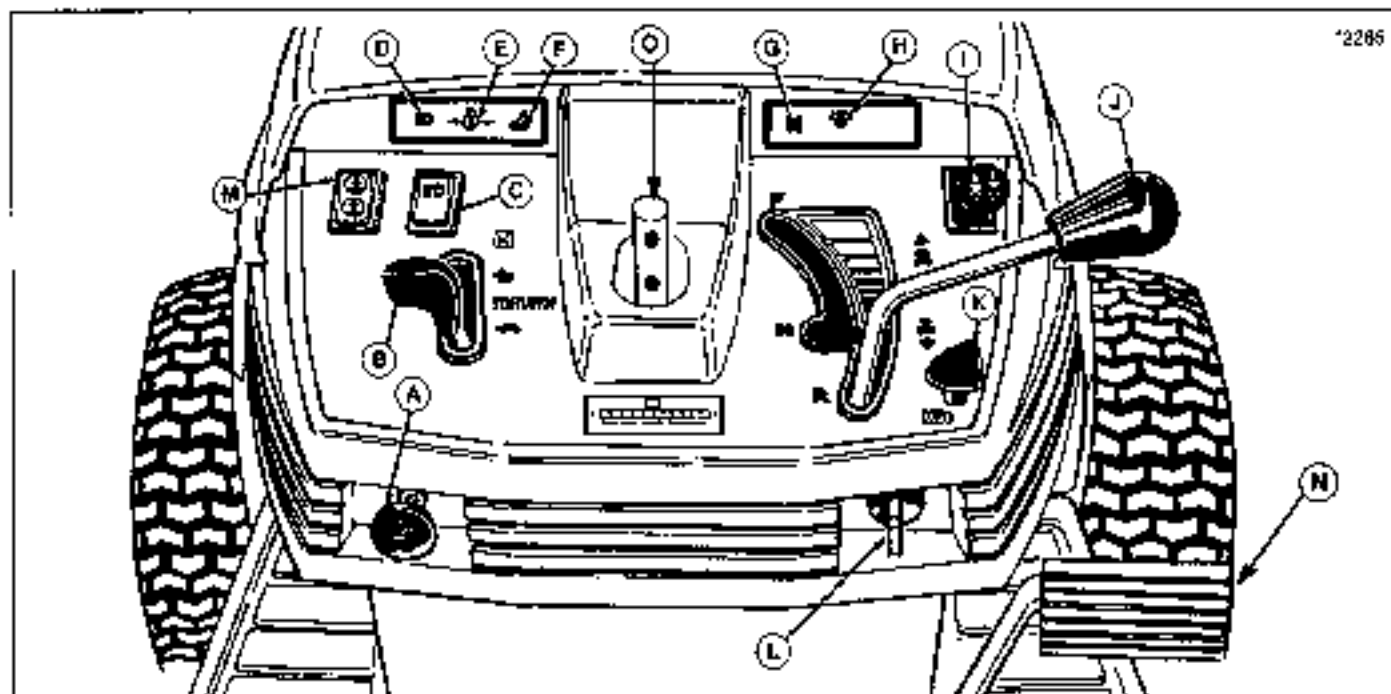
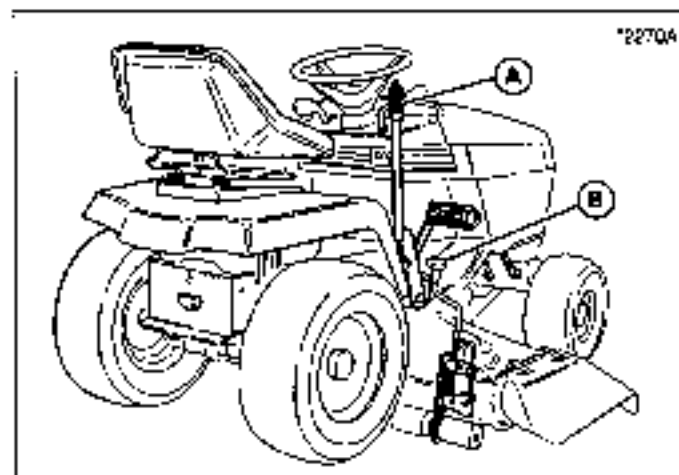
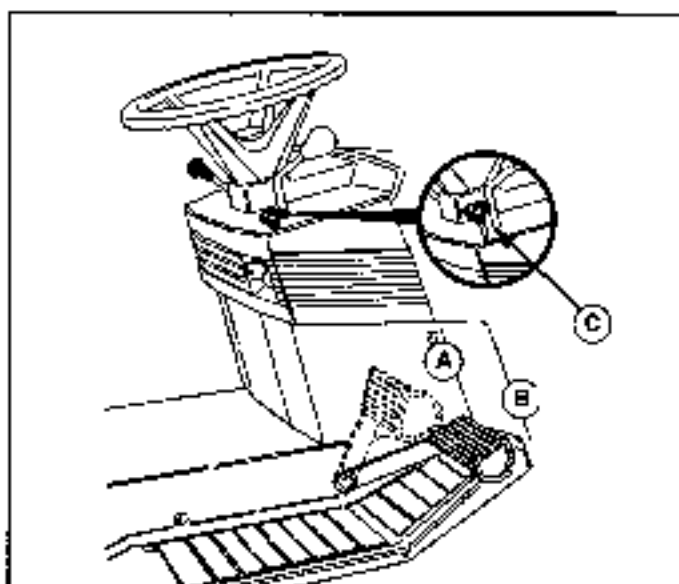
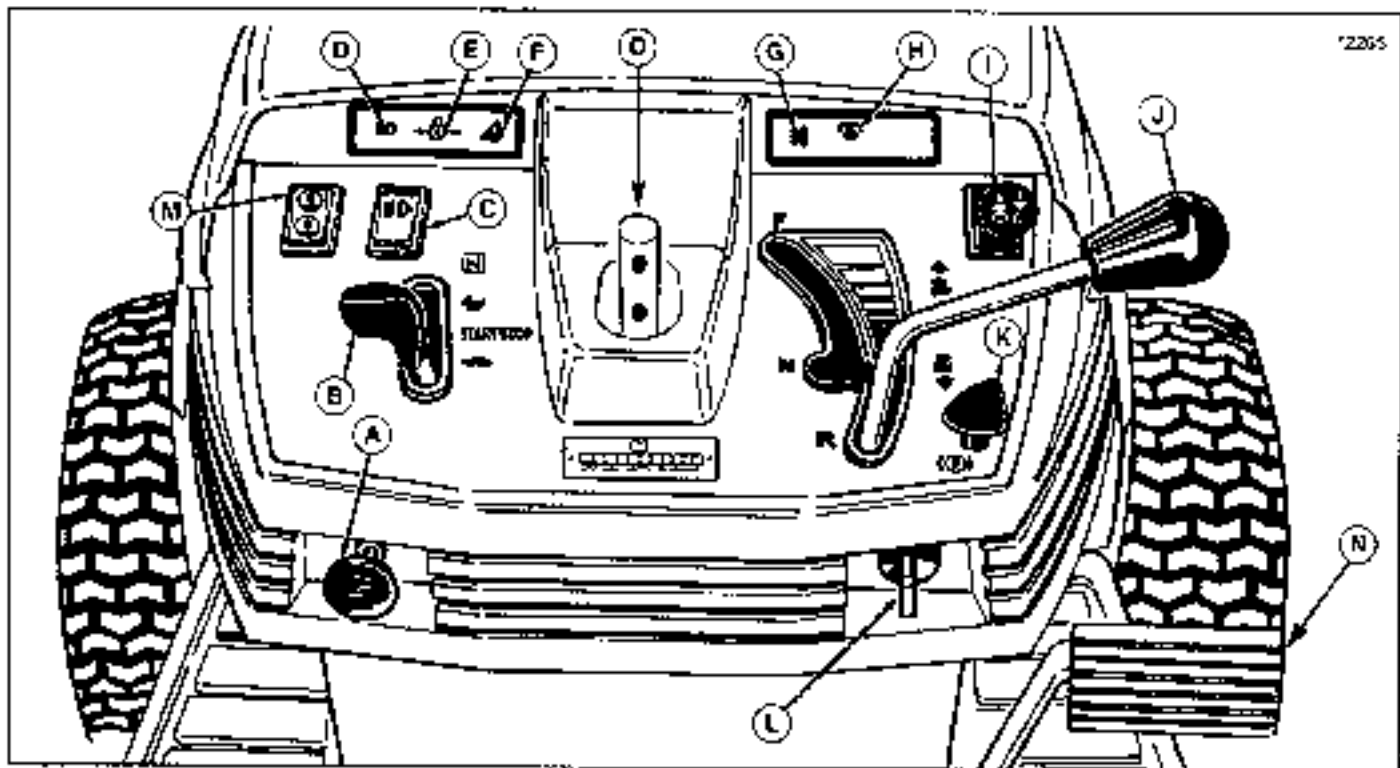

Figure 2. Tractor Controls (Hydro Model Shown)
Figure 10. Mower Operation - Manual Lift
Figure 11. Clutch/Brake Pedal and Parking Brake (Brake Pedal Only - Gear Models)
Figure 13. Tractor Controls (Hydro Model Shown)
- A. Neutral Indicator Light (G, figure 2) should go on with transmission lever in neutral gate and should go out when lever is moved to either the forward or reverse gate.
- B. PTO Indicator Light (H, figure 2) should go on and off with operation of PTO switch.
- C. Oil Pressure Indicator Light (E, figure 2) should be on and should go out immediately after engine starts.
- D. Operator Seated Indicator Light (F, figure 2) should go on when operator is present in the seat and should go off as operator rises out of the seat.
2. Place mower in the lowest cutting position using the mower height adjuster (B, figure 10). Place the mower lift lever (M, figure 2 or A, figure 10) in the lowest position, also. Slide mower deck under right side of tractor so that mower hitch is aligned with front tractor hitch.
2. Place mower in the lowest cutting position using the mower height adjuster (B, figure 10).
3. Place the mower lift lever (A, figure 10 or M, figure 13) in the lowest position.
1. When traveling to or from the work site, fully raise the mower using the mower lift lever (A, figure 10 or M, figure 13). At the work site, lower mower using the lift lever.
2. Use the mower height adjuster (B, figure 10) to set the proper mowing height. See **Mowing Patterns & Tips** section for cutting height recommendations.
1. See figure 11. Depressing the pedal to position A disengages the transmission drive and, when in a forward gear, returns the transmission control lever to neutral. Fully depressing the pedal to position B applies the tractor brake.
2. Parking brake is applied at pedal position B when parking brake control knob (C, figure 11) is pulled up with pedal fully depressed.
2. See figure 11. Depressing the brake pedal from position A to B applies the tractor brake. Parking brake is applied at position B when parking brake control knob (C) is pulled up with pedal depressed.
Refer to figure 13.
**On hydro models,** ground speed is infinitely variable according to how far the control lever (J, figure 13) is moved in the forward or reverse position.
**On gear models,** ground speed is selected by depressing the clutch pedal and moving the control lever (J, figure 13) to the appropriate gear selection.
1. If you are ready to mow, lower the mower from the transport position using mower lift lever (A, figure 11 or M, figure 13) and set the mowing height using the
mowing height adjuster (B, figure 11).
2. Set the engine speed control lever (B, figure 13) for full speed.
3. Use the PTO switch (I) to engage the PTO.
4. Release the parking brake by depressing brake pedal (N, figure 13) and pushing knob (K) down.
5. On hydro models, move the ground speed control lever (J, figure 13) to the desired direction and speed of travel to set the tractor in motion.
6. Adjust engine speed control lever (B, figure 13) to the desired speed. Between 3/4 and full speed is recommended for mowing.
1. **On hydro models,** move the ground speed control lever (J, figure 13) into the NEUTRAL position to make a gradual stop. To make a more rapid stop, depress the clutch/brake pedal (N, figure 13).
**On gear models,** press the clutch pedal (N, figure 13) down to disengage the clutch for a gradual stop. For a more rapid stop, press the brake pedal down to apply the brake while also depressing clutch pedal to disengage the PTO. Move the ground speed control lever to NEUTRAL before releasing the pedals.
2. Engage the parking brake by fully depressing brake pedal and pulling up on parking brake knob (K, figure 13).
3. Use the PTO switch (I, figure 13) to disengage the PTO.
4. Set the engine speed control lever (B, figure 13) to 1/2 throttle setting and allow the engine to idle for 20 seconds. Stopping a hot engine too fast may cause engine damage.
5. Turn key (L, figure 13) to OFF and remove it.
1. With engine off and key removed, use the PTO switch (I, figure 13) to disengage the PTO.
2. Place the mower in the transport position (up) using the mower lift lever (A, figure 10 or M, figure 13).